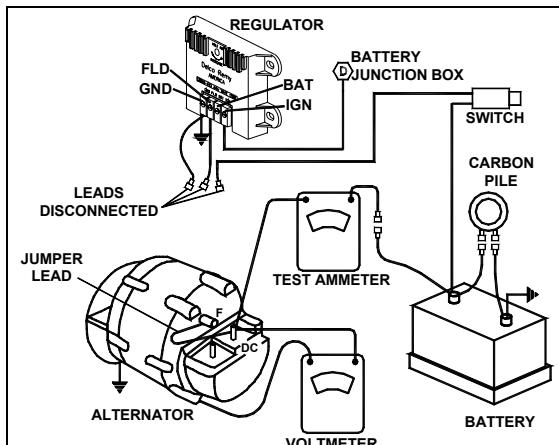

FIGURE 45: REGULATOR VOLTAGE TEST (UNDERCHARGED BATTERY)
6. See figure 45 for wiring connections.